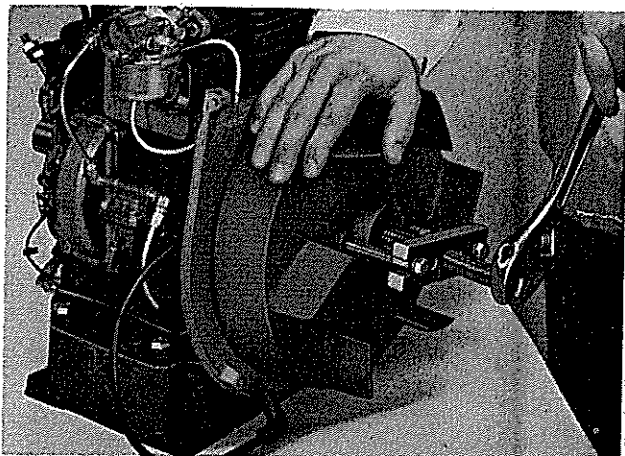

Figure 9
8. The flywheel is mounted on a tapered shaft and can be removed without the use of special tools. If the flywheel does stick on the shaft, the use of a puller will prevent damage to the crankshaft threads (Figure 9).